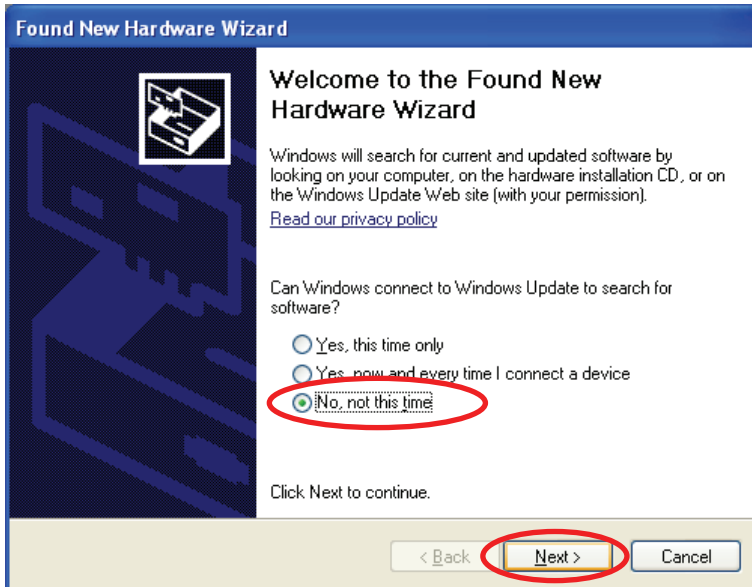

Fig. 2.11: Windows XP SP2 driver installation
- ➡ Select "No, not this time" and click on "Next" to confirm (see Fig. 2.11).